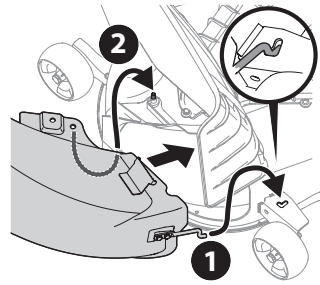

Figure 25
4. Insert the end of the boot (1) into the hole provided in the deck wheel mount as shown in the inset of Figure 25.
5. Pivot the boot rearward until the hole in the boot aligns with the pin on the deck adapter. Move the boot down onto that pin as shown in 2 of Figure 25.